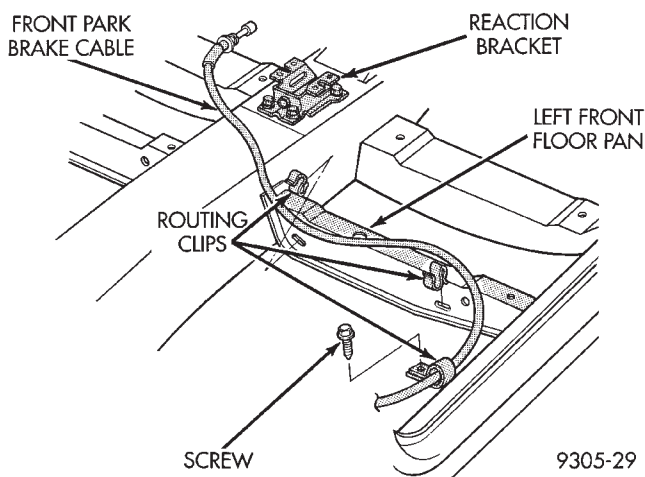

Fig. 16 Front Park Brake Cable Routing And Clipping
(4) Remove front park brake cable from reaction bracket (Fig. 16). Remove screw, attaching park brake cable routing clip to left front floor pan (Fig. 16). Remove front park brake cable from the 2 routing clips attached to the floor pan crossmember (Fig. 16).